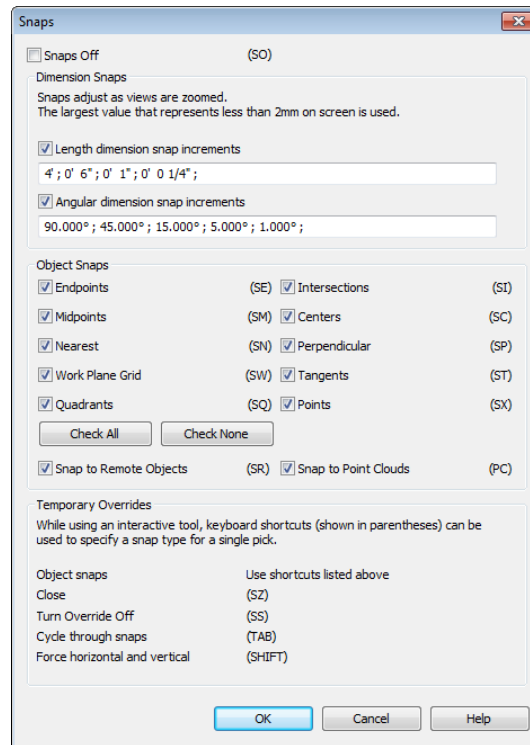

Figure 2-40 The Snaps dialog box
1. Choose the **Snaps** tool from the **Settings** panel of the **Manage** tab; the **Snaps** dialog box is displayed, as shown in Figure 2-40.